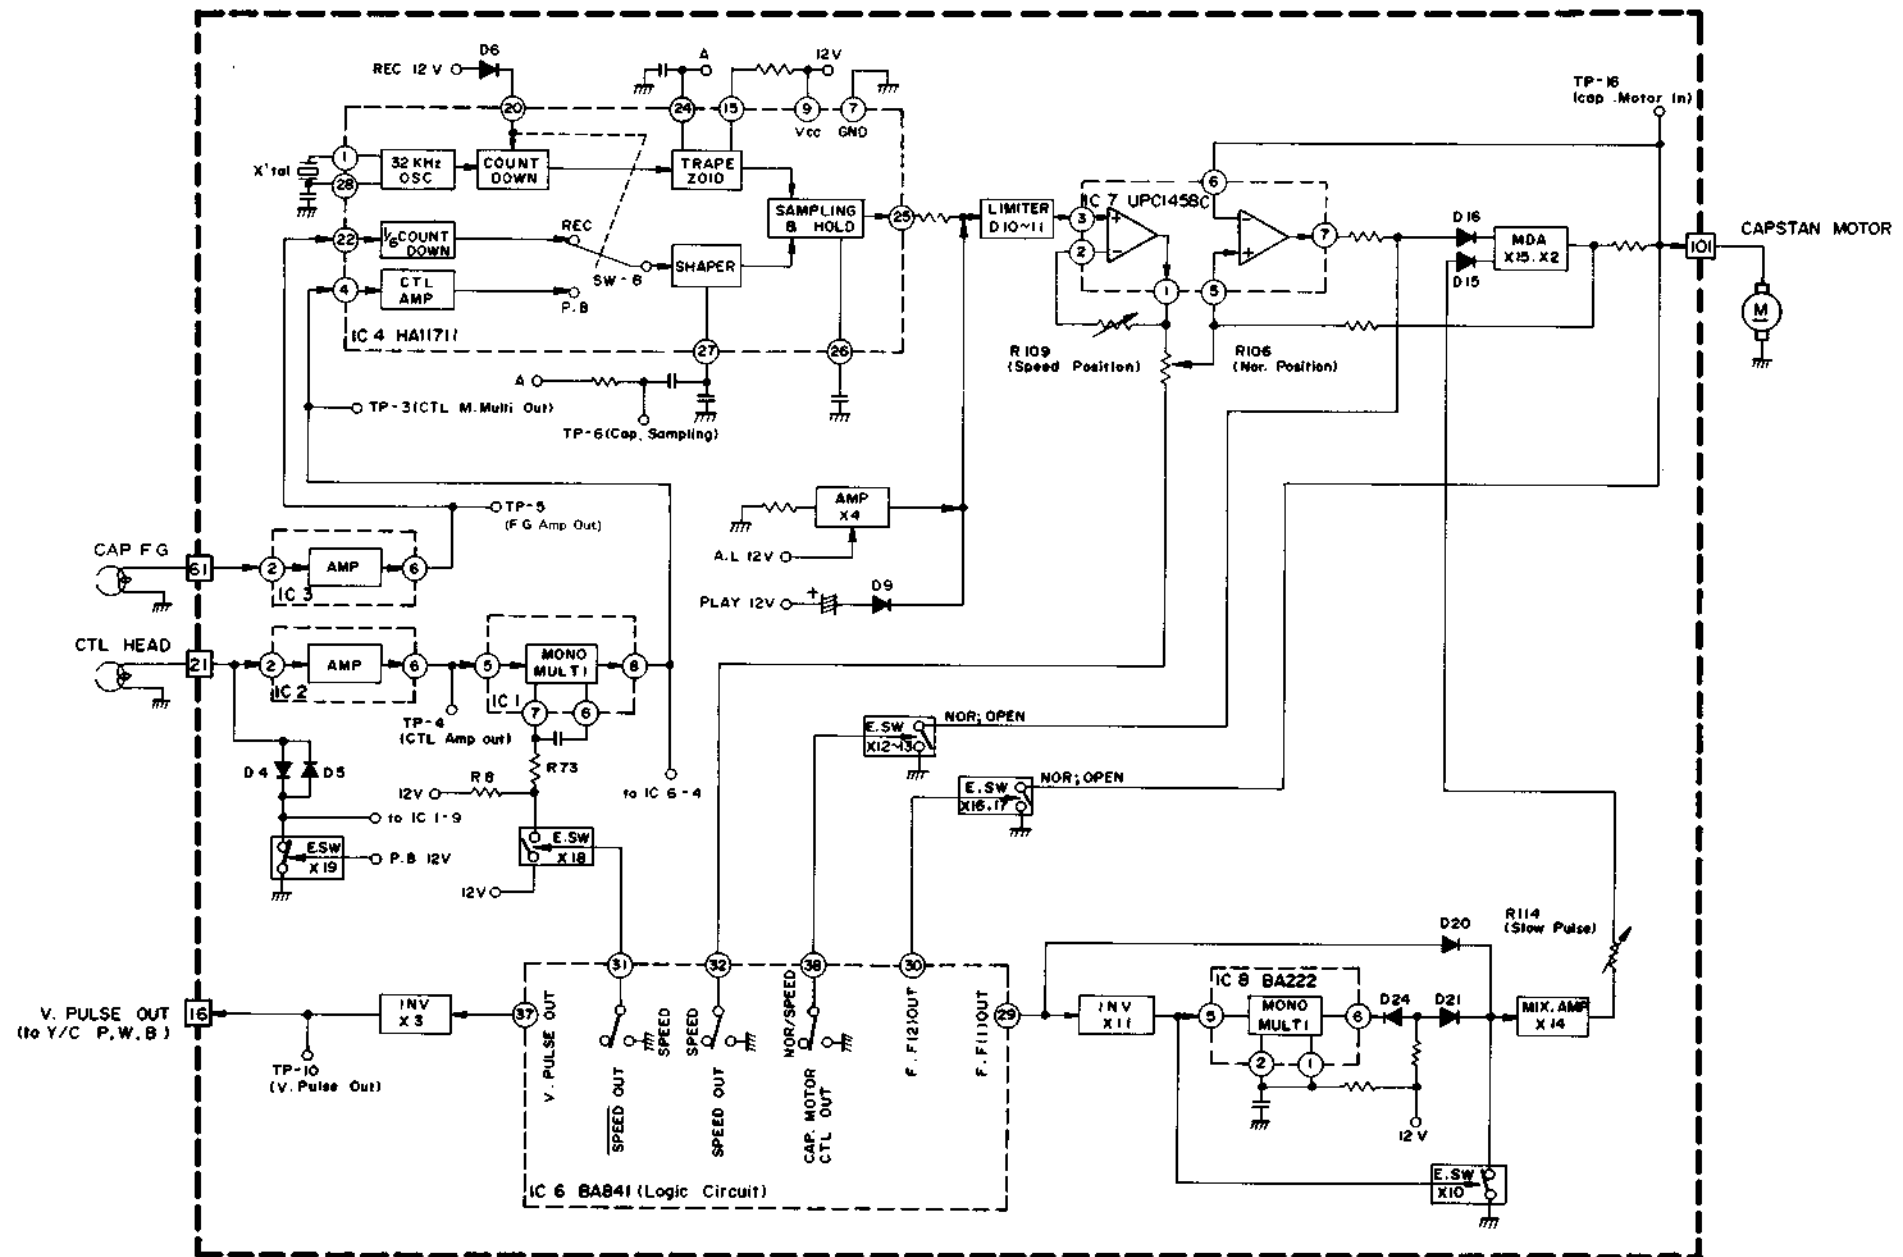
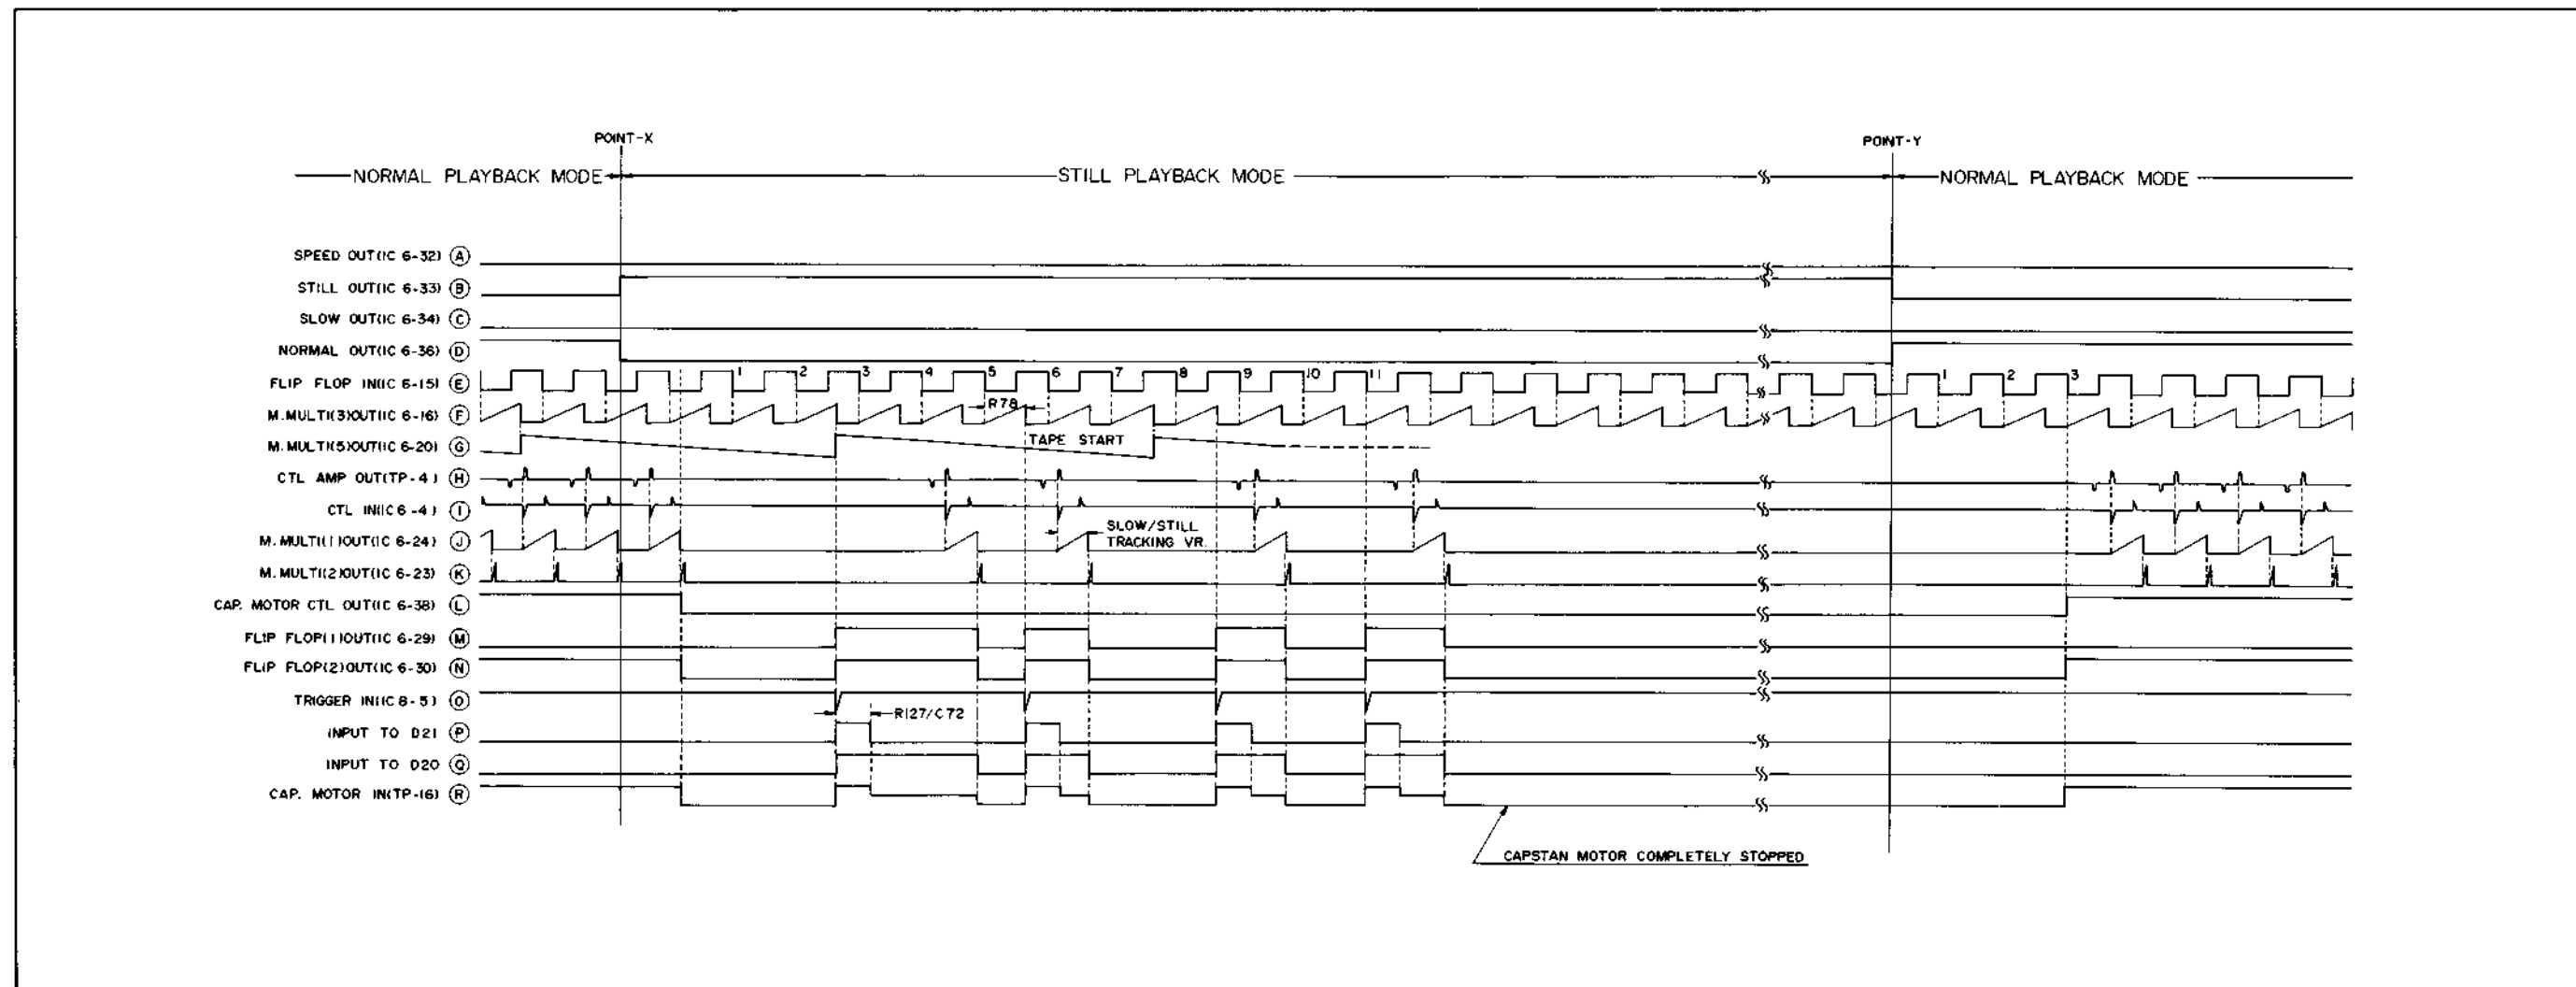

Fig. 2-7 Capstan servo system block diagram
Fig. 2-10 Timing chart at switching from normal to still playback
In Fig. 2-7, reference is obtained from the same 32 kHz crystal oscillator frequency used for the drum servo system. However, in this case, it is counted down to approx. 21 Hz, then converted to a trapezoidal waveform and supplied to the sampling and hold circuit.
Refer to the Fig. 2-10 timing chart and Fig. 2-7 capstan servo system block diagram. Point X at the top of the chart indicates the instant that the normal playback mode has been switched by the remote controller to the still mode and IC6 pin 8 has dropped to ground potential. At this instant, still out (B) becomes HIGH and normal out (D) LOW. From this instant, the first falling pulse of MMV (1) out (J) shaped by the control signal (I) drops the capstan motor control out (L) to LOW potential. Therefore, in the capstan servo system (see Fig. 2-7), the opamp output from IC7 pin 7 is grounded by electronic switches X12 and X13 and is not supplied to the motor drive amplifier. At the same time, flip-flop (2) out (N) becomes LOW potential and the capstan motor input terminal is grounded by X16 and X17. With absence of a capstan motor drive source, the tape transport stops completely.